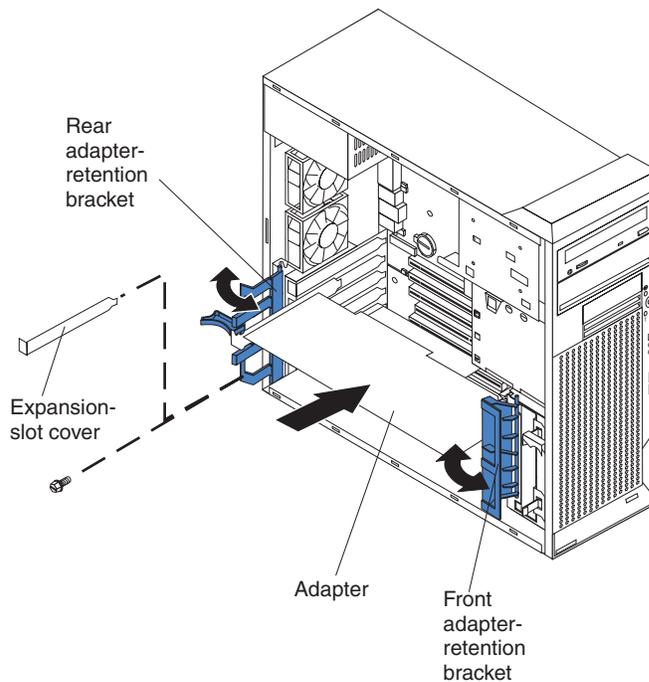

Figure 9. Adapter placement
8. Remove the adapter from the static-protective package, carefully grasp the adapter by the top edge or upper corners, and align it with the expansion slot guides (see Figure 9); then, press the adapter *firmly* into the expansion slot. Move the adapter directly from the static-protective package to the adapter slot. Avoid touching the components and gold-edge connectors on the adapter.